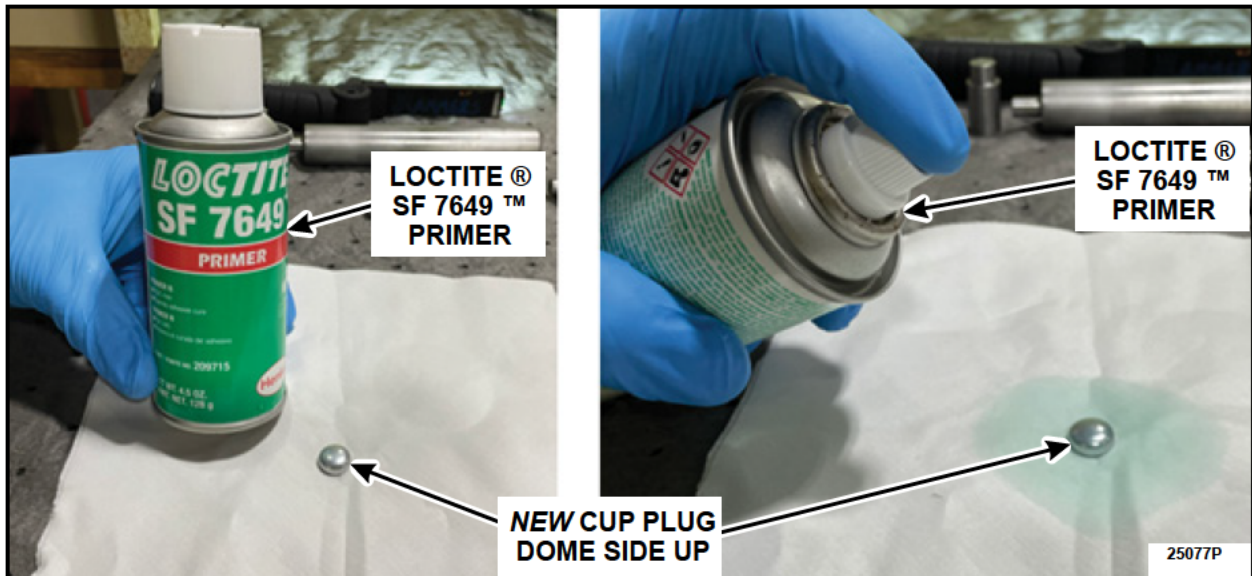

FIGURE 25
7. Place a *new* cup plug on the cleaning cloth dome side up. Spray the *new* cup plug with Loctite® SF 7649™ and allow 5 minutes to dry. See Figure 25.